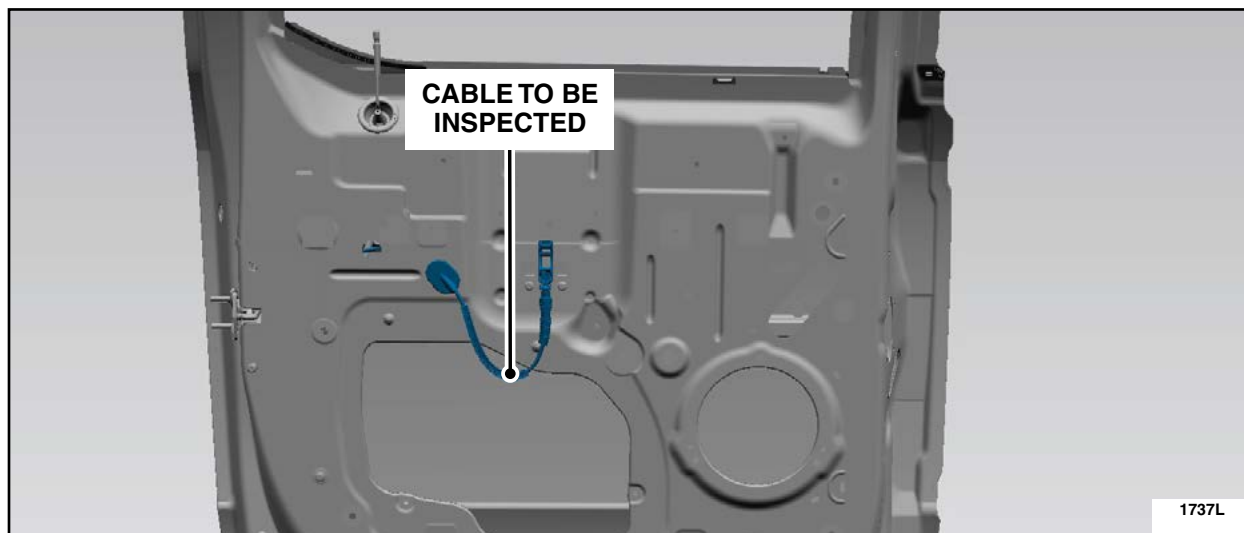

FIGURE 9
3. Inspect the interior door handle to latch cable for kinking. See Figure 9.